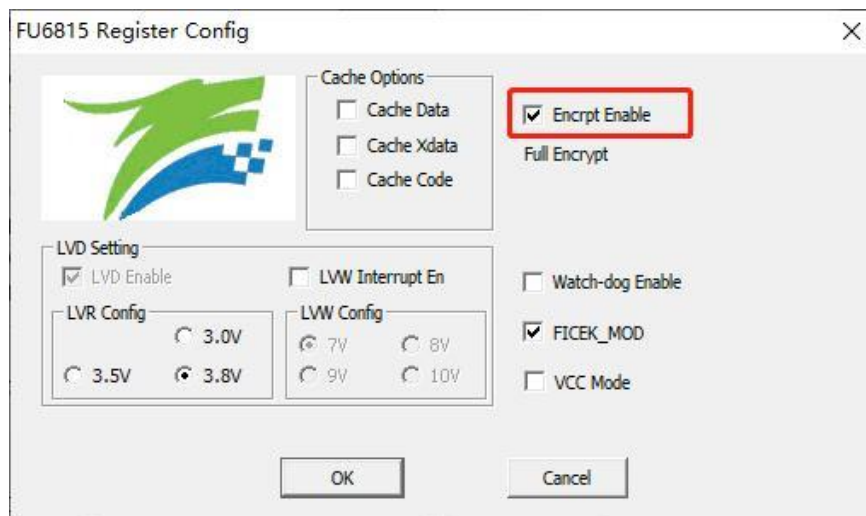

Figure 34-2 Full Code Protection Mode
2. Select the options as shown in Figure 34-2, and click OK. Then compile the project and download it. Get the BIN file and program it to Flash.